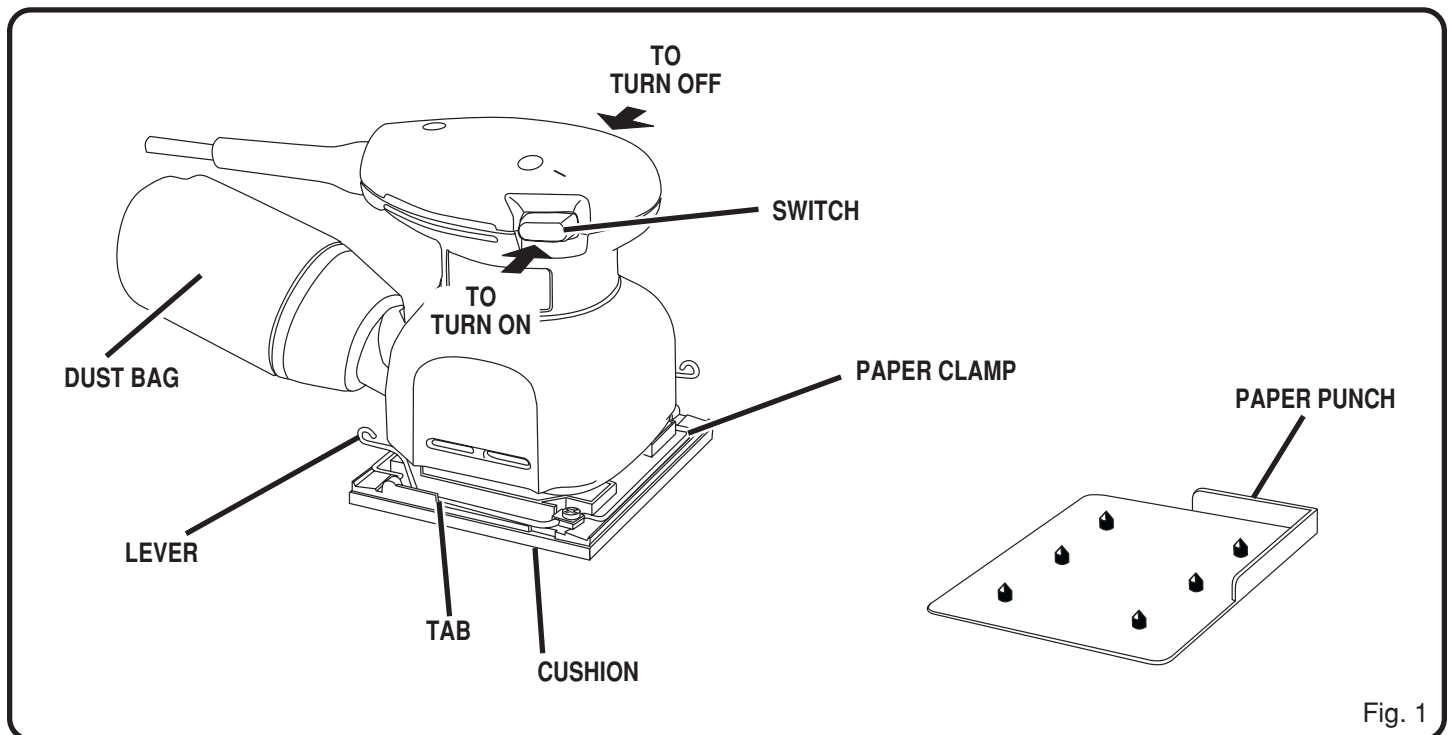

Fig. 1
See Figure 1.
This tool is equipped with a simple switch control. To turn the sander "ON", slide the switch to the left (I) as shown in Figure 1. Slide the switch to the right (O) to turn the sander "OFF".